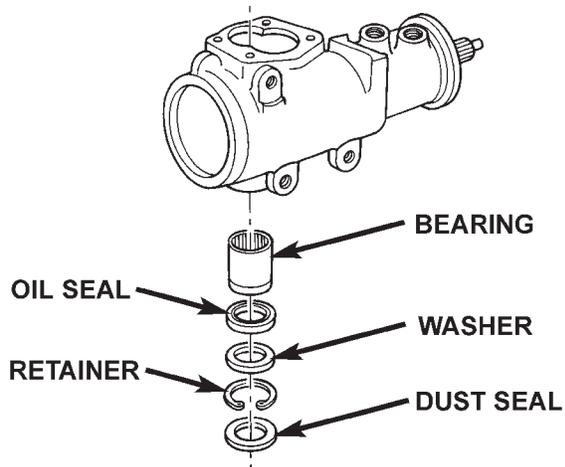

Fig. 9 Pitman Shaft Seals & Bearing
- (6) Remove pitman shaft from the side cover.
- (7) Remove dust seal from the housing with a seal pick (Fig. 9).